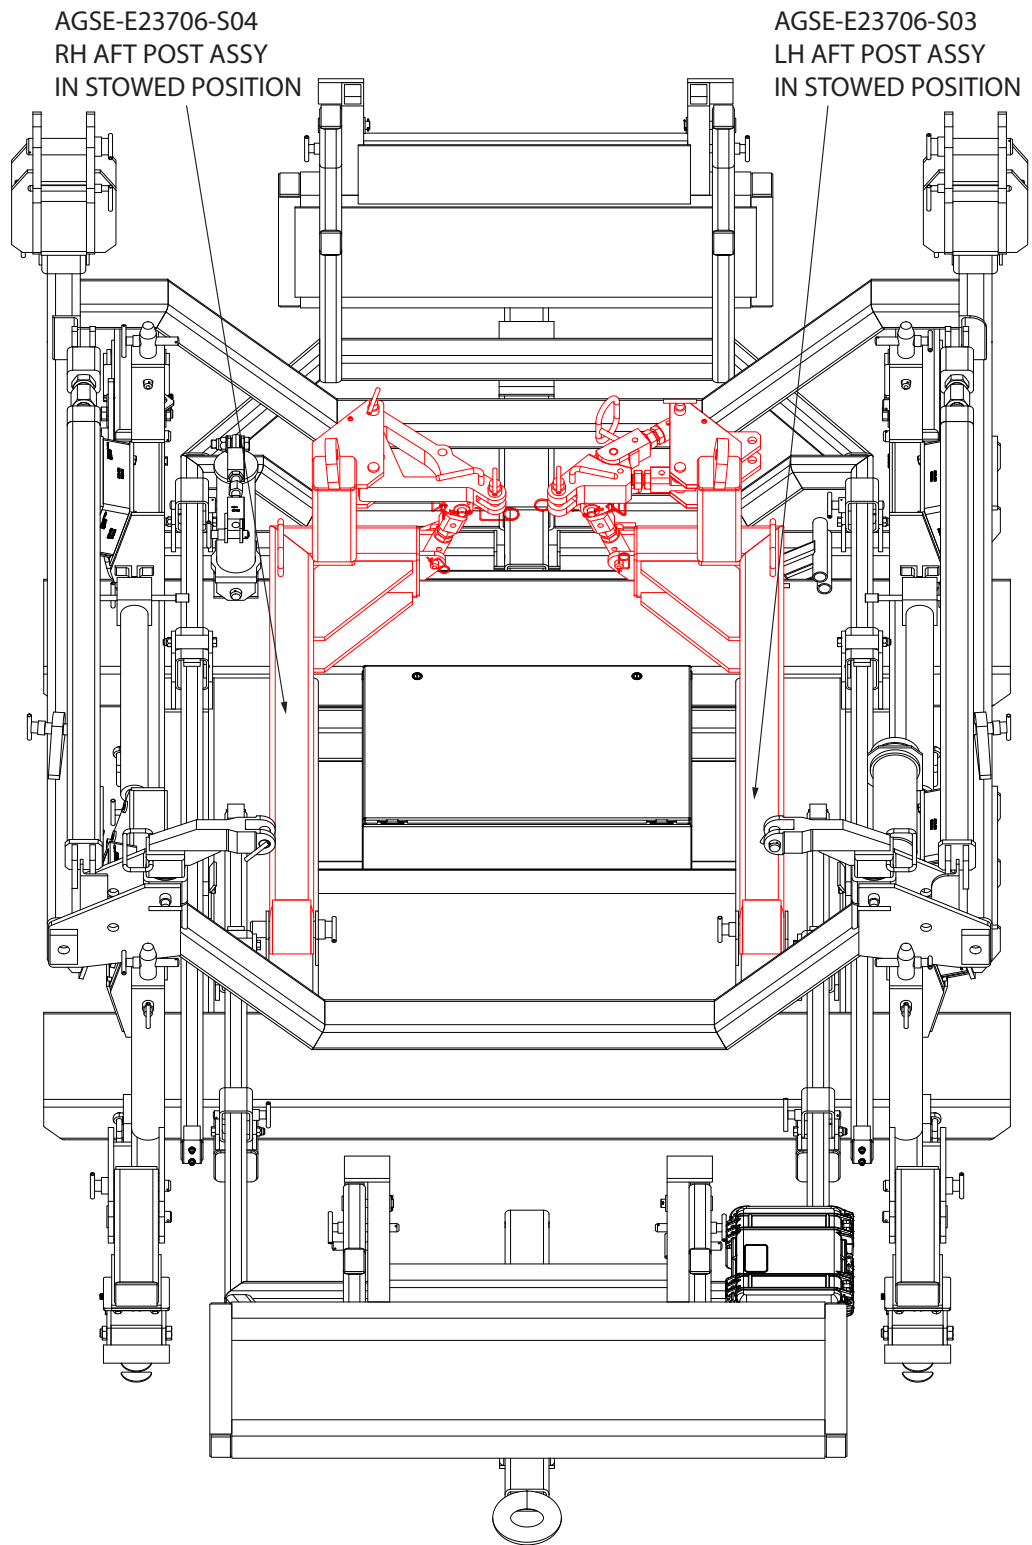

Figure 5.1-2
- 4) If the engine is to be installed from the LH side of the stand, remove the LH adjustable AFT brace by removing two (2) AM-91000-34T safety pins. Put the brace and hardware aside or store on the cradle frame.
- 5) Configure the mounts of the AGSE-E23706-S03 & -S04 AFT posts into their stowed positions. (See Figures 5.1-2).
- 7) Remove the FWD mount supports, AGSE-E23732-P01 by removing two (2) AM-90750-80T safety pins and attach them to the LH & RH FWD brackets of the 189C1617G01 bracket set. Secure with AGSE-E23732-P03 FWD mount pins.